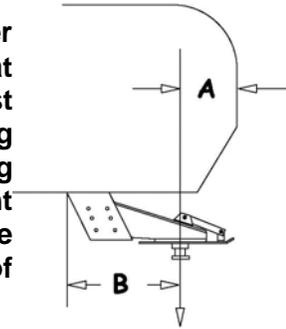

Figure 1
- As a general rule, for the SuperGlide hitch to maintain proper clearance to the truck, the leading edge of the trailer (measured at the corner) should be even with the center of the king pin. Most truck trailer combinations will allow 102" wide trailers if the king pin is located as described. Narrower trailers will allow the king pin to be "tucked" under the trailer over hang to some extent (Figure 1). Call PullRite technical support with trailer width, make and year of truck and distance the king pin is from leading edge of the trailer (Dimension A). 1-800-443-2307.
- Using a trailer that has a long rear slope to the King Pin Box Hangar, "B" in (Figure 1), may cause damage to the trailer or truck bed during turns. Dimension "B" must be less than one half the width of the inside top edges of the bed. Please call PullRite technical support, 1-800-443-2307, if more information concerning this problem is needed.